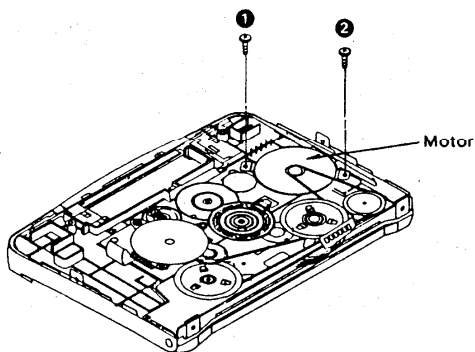

Fig. 8
2. Remove 2 screws (①, ②). (See Fig. 8.)